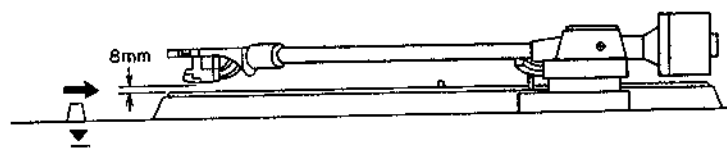

Fig. 17
3. Put a record on and set the elevation control to  $\nabla$ . Adjust screw (a) until there is an 8 mm gap between the tip of the stylus and the surface of the record. (Refer to Figs. 17, 18)